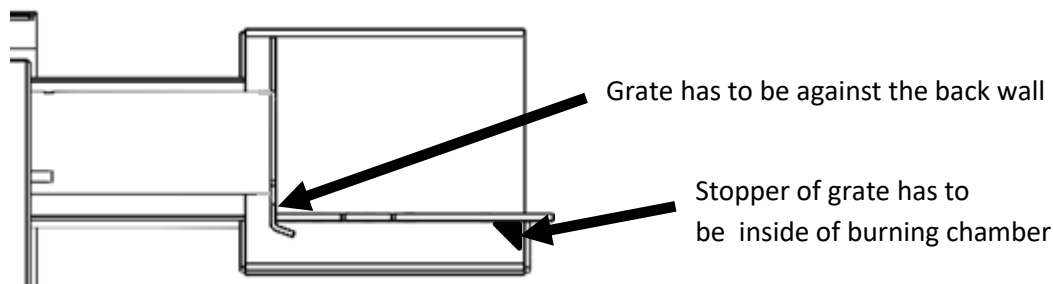

Figure 16 Grate's correct placement
6. Place grate correctly back to burning chamber as shown in Figure 16. Wrongly placed grate reduces air supply and efficiency of burning. The grate of PV20b must not be replaced with grate of PV30b and vice versa.